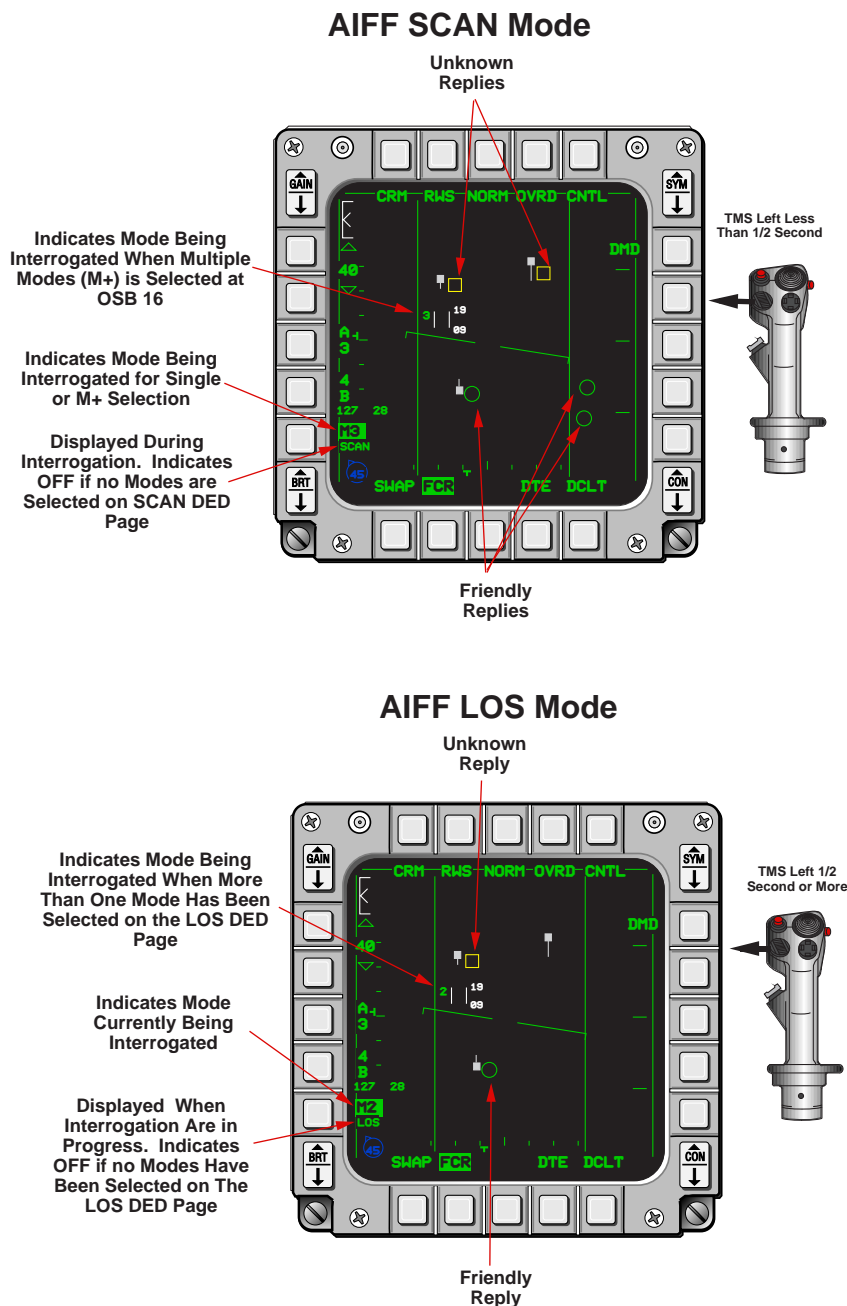

Figure 1-54 AIFF Controls and Symbology
**AIFF Interrogation Control and Symbology.** The AIFF system uses green circles and yellow squares to depict replies to commanded interrogations (Figure 1-54). The green circles denote "friendly" replies and yellow squares indicate responses that are of an "unknown" nature. A friendly reply is defined as a reply that is of the same mode and code as the original interrogation. An unknown reply is one whose mode is the same but whose code is not the same as the interrogator's. Interrogation replies are always displayed on the FCR A-A MFD format and may be selected to appear on the Horizontal Situation Display (HSD) format by selecting AIFF at OSB # 3 on the HSD Control page (Figure 1-23).